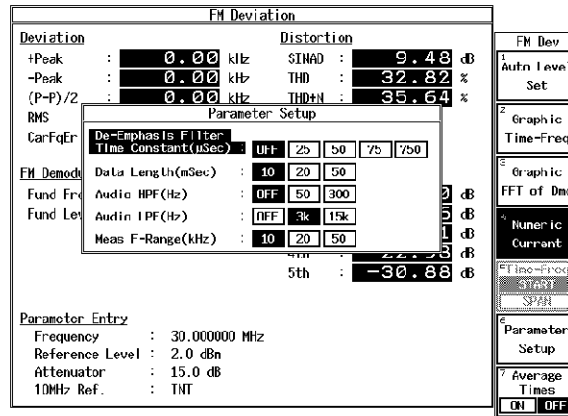

Figure 6-5 Setup of Measurement Parameters for Simplified Performance Check
4. On the R3267 Series, set measurement parameters as shown in Figure 6-5.